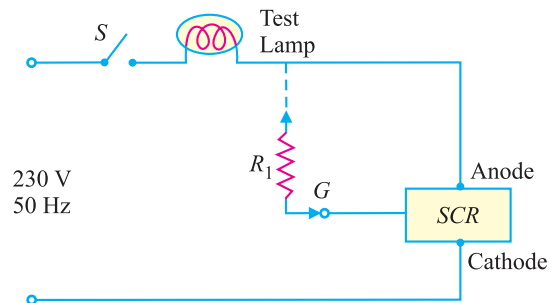

Fig. 20.29
**Solution.** Fig. 20.29 shows a simple circuit for testing an SCR. The test lamp serves two purposes. First, it is a visual indicator of current conduction. Secondly, it limits current through the SCR.